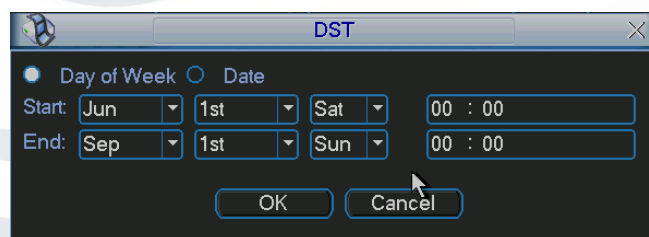

Figure 5-4
- **DST:** Here you can set DST time and date. Please enable DST function and then click set button. You can see an interface is shown as in Figure 5-4. Here you can set start time and end time by setting corresponding week setup. In Figure 5-4, enable date button, you can